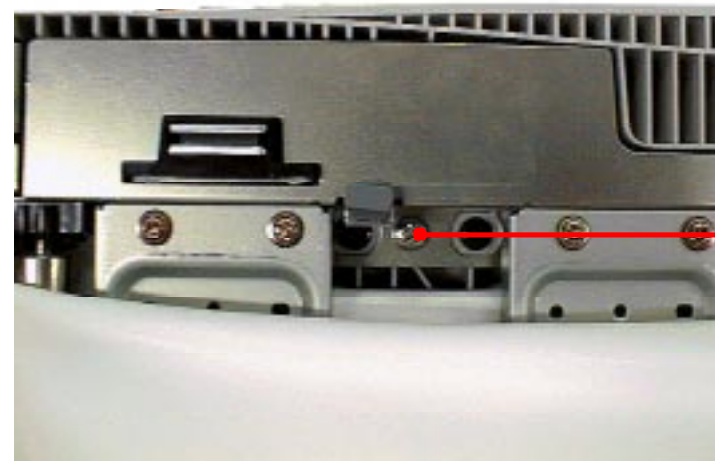

Figure 4-7. Transportation Belt Unit Fixing Screw Removal
3. Remove 2 right and left transportation belt unit fixing screws indicated in Figure 4-7, then hold the top edge of the belt and pull it forward and remove the whole belt unit by pulling it upward.